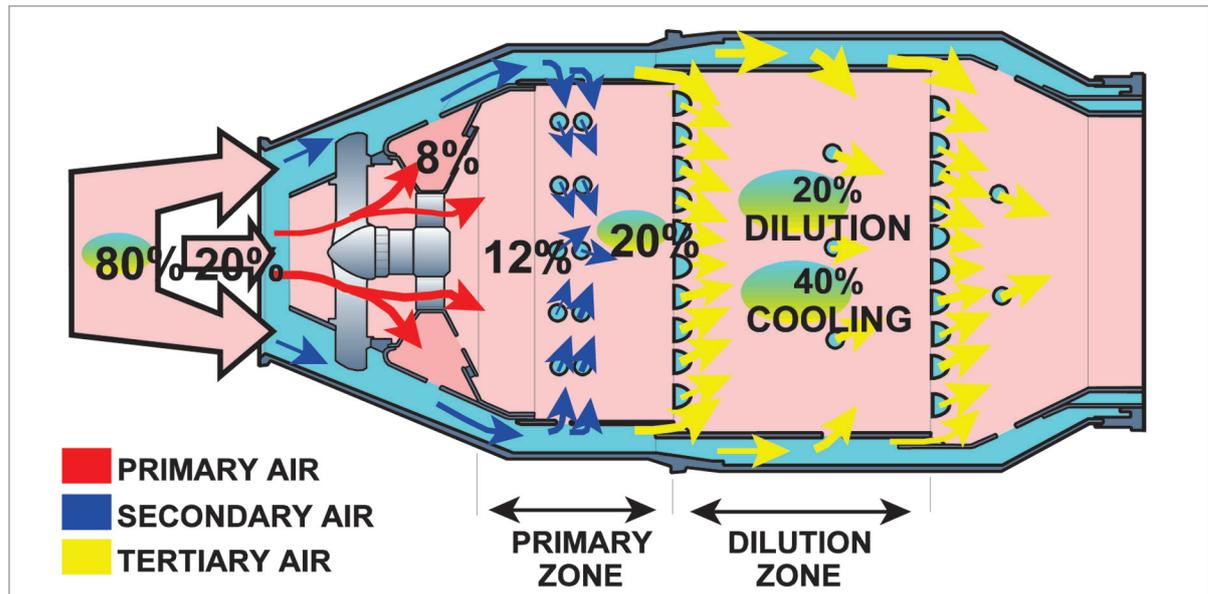

Figure 16.1 The division of airflow through the combustion chamber.
*Figure 16.1* shows how the air is slowed down and its pressure is increased after it leaves the compressor and before it enters the combustion chamber.
Figure 16.1 shows how the air entering the primary zone passes through the snout before being divided to go through the perforated flare and the swirl vanes.